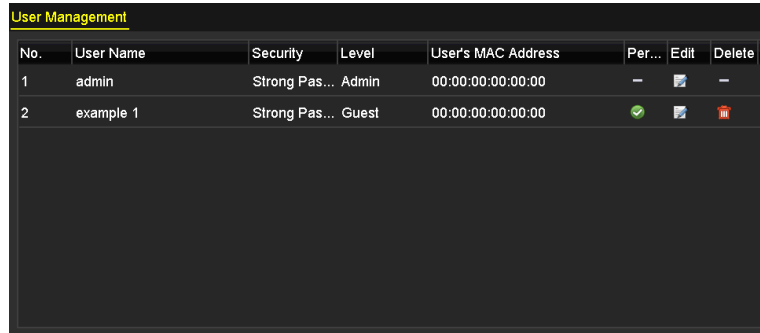

Figure 17-16 Added User Listed in User Management Interface
Step 4 Click the **OK** button to save the settings and go back to the **User Management** interface. The added new user will be displayed on the list, as shown in Figure 17-16.